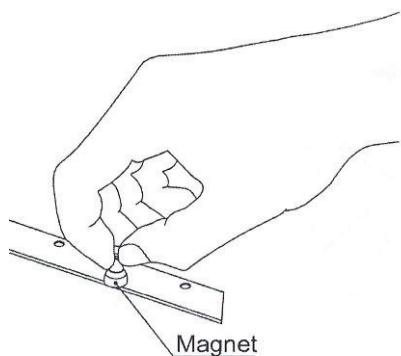

Figure 14
- 6) Using the provided magnet remove the Blades. See Figure 14.